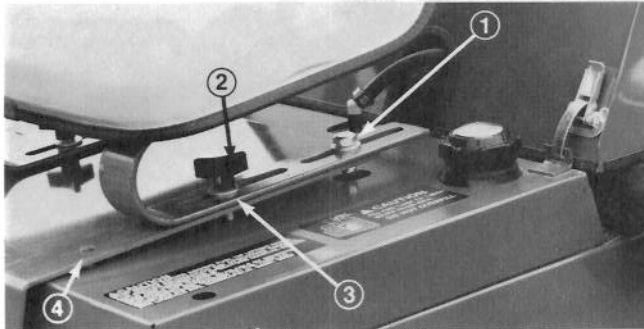

Figure 3
2. Mount seat and springs to rear holes in mount plate with (2) shoulder bolts, flatwashers and lock-nuts (Fig. 3).
3. Secure front slots of seat springs to mount plate with adjustment handles and flatwashers (Fig. 3).